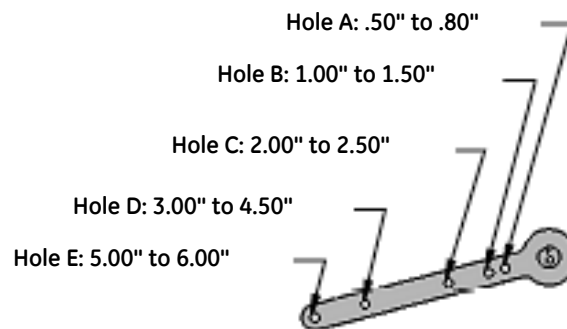

Figure 28 Stroke Settings
3. Set rod-ends and brackets to stroke and size of actuator. The default setting is a 4.00" stroke. Other stroke settings are as in Figure 28.